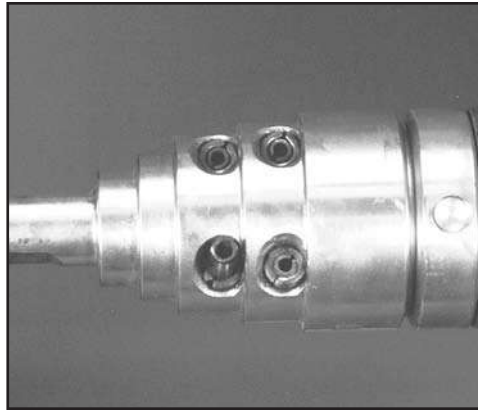

FIG. 33: DRIVE IN THE INNER ROLL PINS
15. Drive in the smaller roll pins, placed inside the larger ones, with the split side towards the inside, short ones in front, longer ones in rear (see Fig. 33).